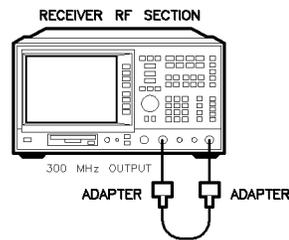

Figure 2-14. Uncertainty Test Setup
1. Connect the 300 MHz OUTPUT to the EMC analyzer input using the BNC cable and adapters, as shown in Figure 2-14.